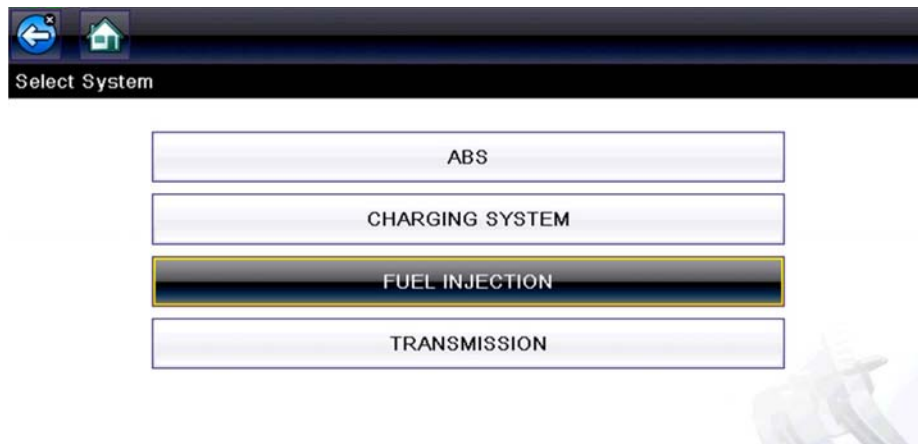

Figure 4-6 *Systems Menu*
1. Select a system from the list (Figure 4-6).